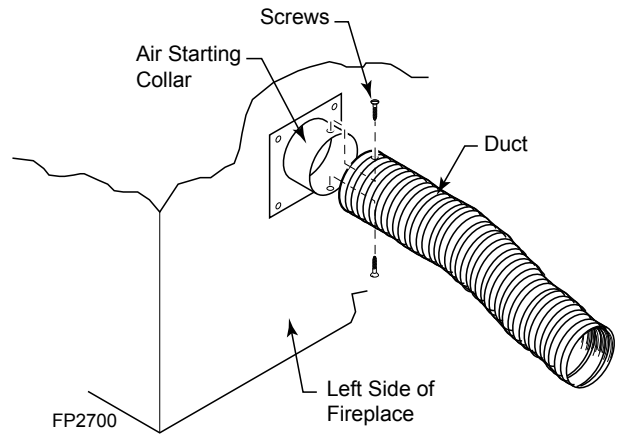

Figure 17 - Attach Outside Duct to Starting Collar
4. Attach outside duct to starting collar with duct clamp or screws. *Figure 17*
6. Select and cut a piece of duct long enough to attach to the fireplace and stick out at least 3" beyond the face of the wall to which the AK4 inlet air vent will be attached. Cut duct with a standard pocket knife. *Figure 17*